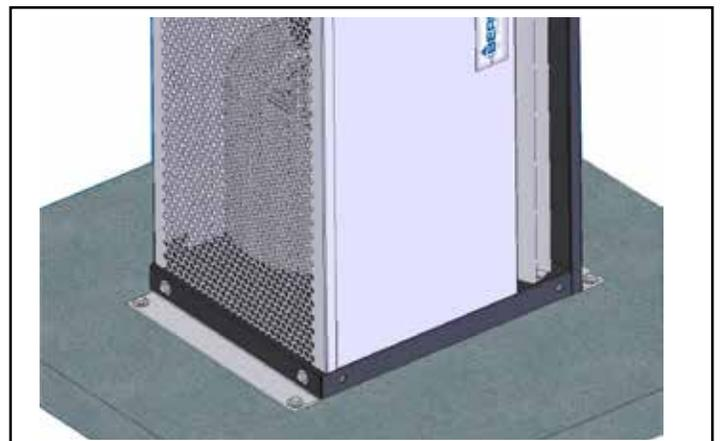

Figure 8 - Floor Mounting
- D. Position the unit vertically in its intended position and anchor it to the floor with a minimum M10 fastener. **See Figure 8**.